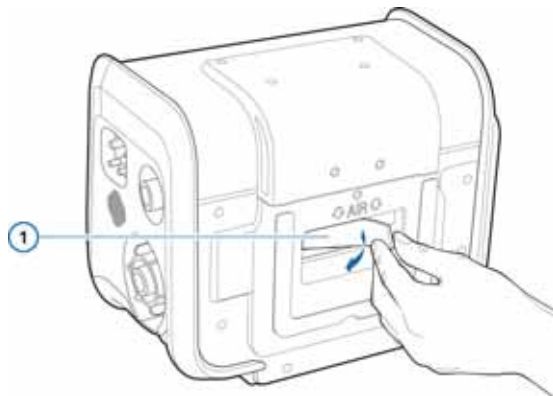

Figure 11-2. Removing the air intake filter (1)
7. Install a new air intake dust filter (Figure 11-2) or wash the existing filter in a mild soap solution, rinse, dry, and reinstall.